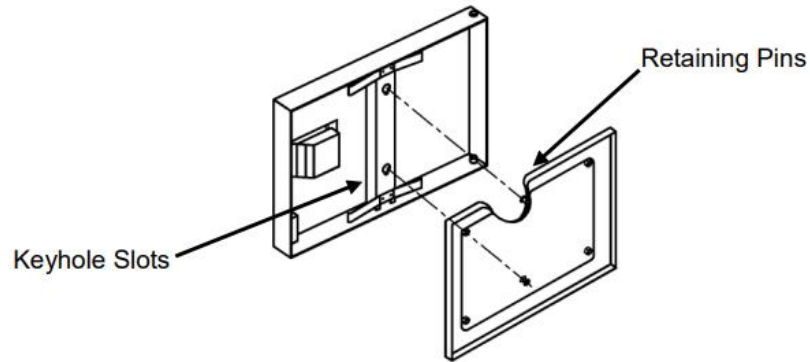

Figure 6-1
- a) Remove the door gasket assembly (see Figure 6-1) by holding the gasket assembly at the sides and lifting up and away from the door.